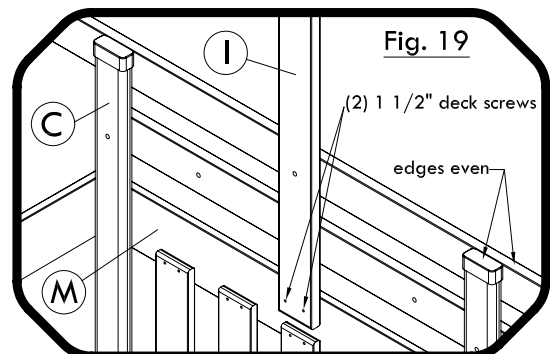

Fig. 19
Step 1: Attach Tarp Assembly to the top of Fort, even with the top of Uprights 'C', with 2" tapping screws & fender washers. (see Fig. 19)
Step 2: Attach Tarp Uprights 'I' to Fort Rails 'M' with (2) 1 1/2" deck screws each as shown. (see Fig. 19)